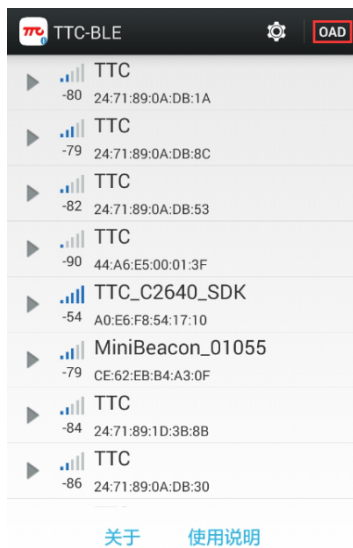

Figure 2-5-7 OAD mode
- (3) open the APP, click OAD, enter the OAD mode, as shown in Figure 2-5-7;